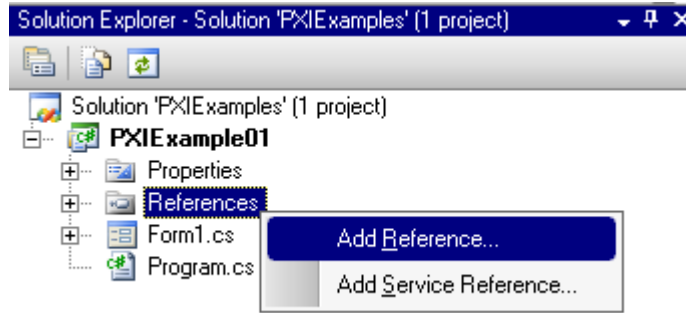

Figure 2 Adding a reference to the Module DLLs
- 3 Make sure the Solution explorer is visible and right-click on References and click on 'Add Reference'. See Figure 2.